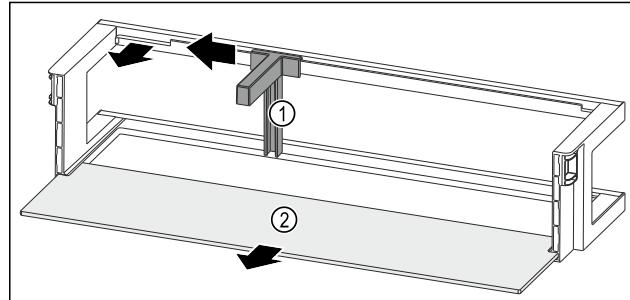

Fig. 89 Door racks with bottle holder and shelf
- ▶ Push the bottle holder *Fig. 89 (1)* to the side up to the recess.
- ▶ Remove the bottle holder *Fig. 89 (1)*.
- ▶ Remove the shelf *Fig. 89 (2)*.